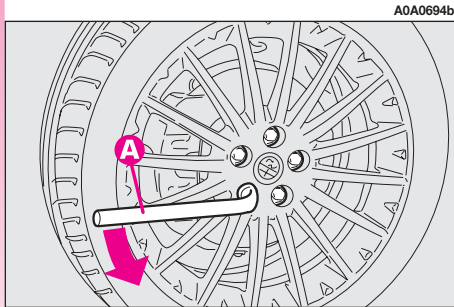

fig. 5
- Using the wrench provided (**A-fig. 5**), loosen the fastening bolts by about one turn.